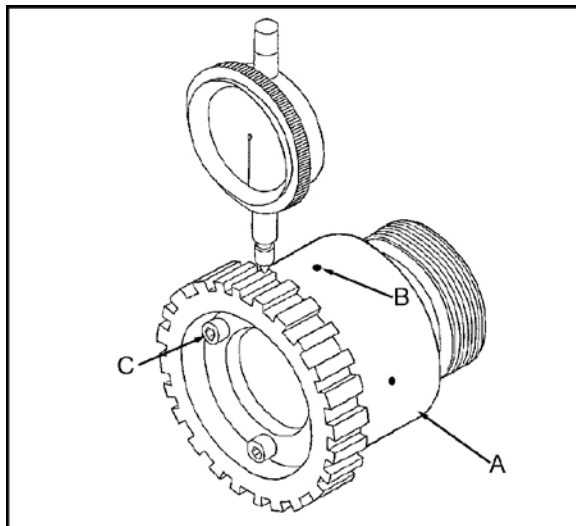

Figure 2
6. Screw the coupling assembly (A, Figure 2) onto the spindle threads located at the rear of the spindle.
7. Open the end train door slightly to allow access and tighten the coupling in place using three hex socket screws (B, Figure 2).
Adjustments can be made by loosening three hex socket cap screws (C, Figure 2).